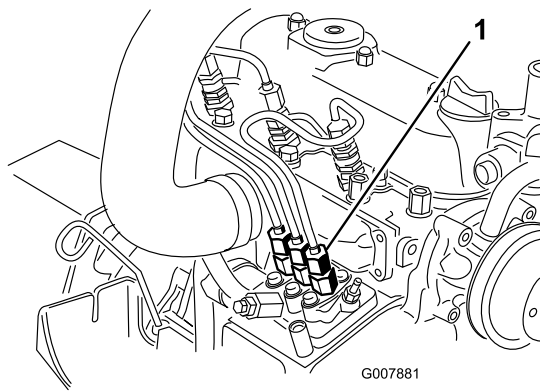

Figure 33
1. Place a rag under the pipe connection coming from the injection pump to the No. 1 injector nozzle as illustrated in Figure 33.